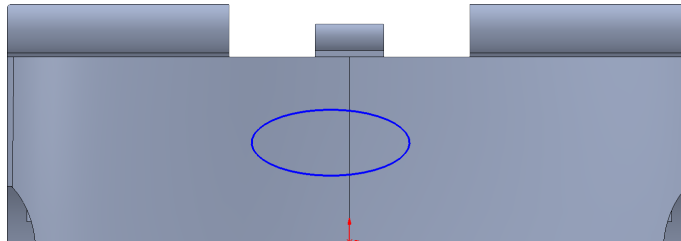
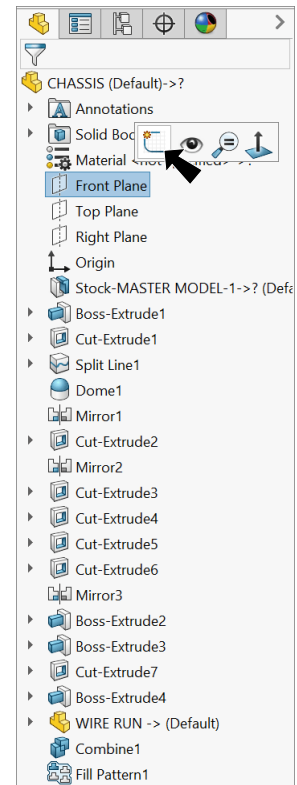

Fig. 104
Fig. 103
Step 1. Click **Front Plane**  in the Feature Manager and click **Sketch**  on the context toolbar, **Fig. 103**.
Step 3. Click **Ellipse**  (S) in the **Ellipse flyout**  on the Sketch toolbar.
Step 4. Sketch ellipse above **Origin** , **Fig. 104**.